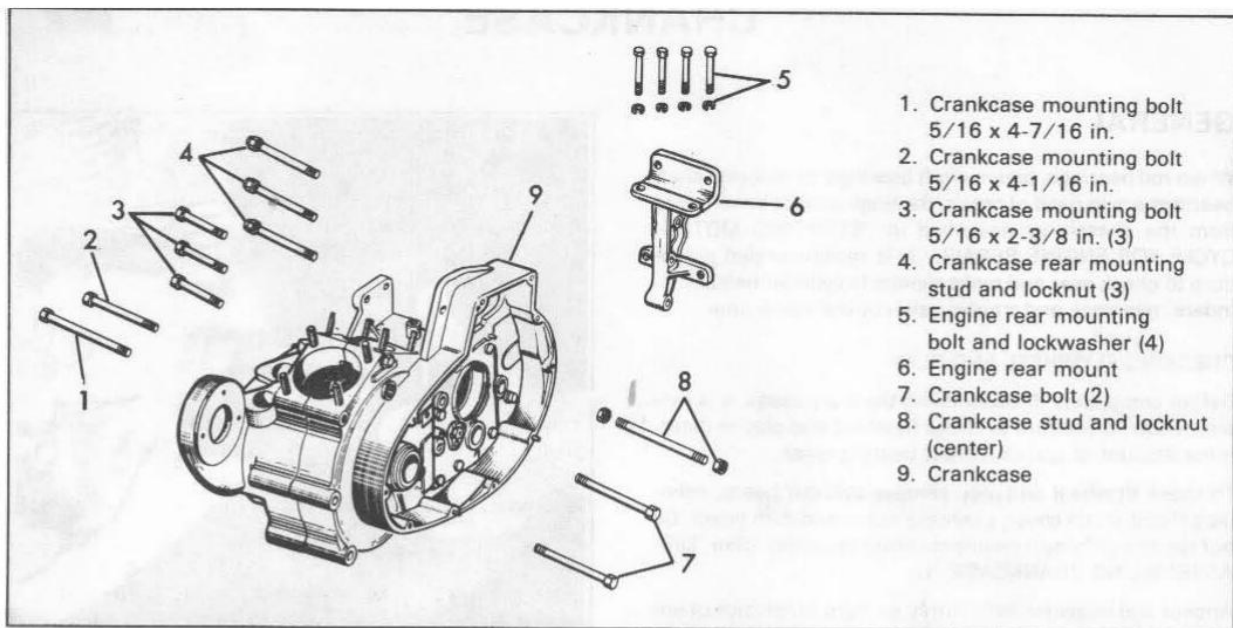

Figure 3-41. Crankcase - Exploded View
8. See Figure 3-41. Free the tachometer drive unit from the right case and remove right crankcase bolts (1, 2, and 3) and stud nuts (4). Remove bolts (5), engine rear mount (6), bolts (7), and top center crankcase stud (8).
Temporarily assemble right and left cases with stud (8), bolts (3) and bolts (2, Figure 3-41). Securely tighten bolts to assure perfect alignment between left and right cases.